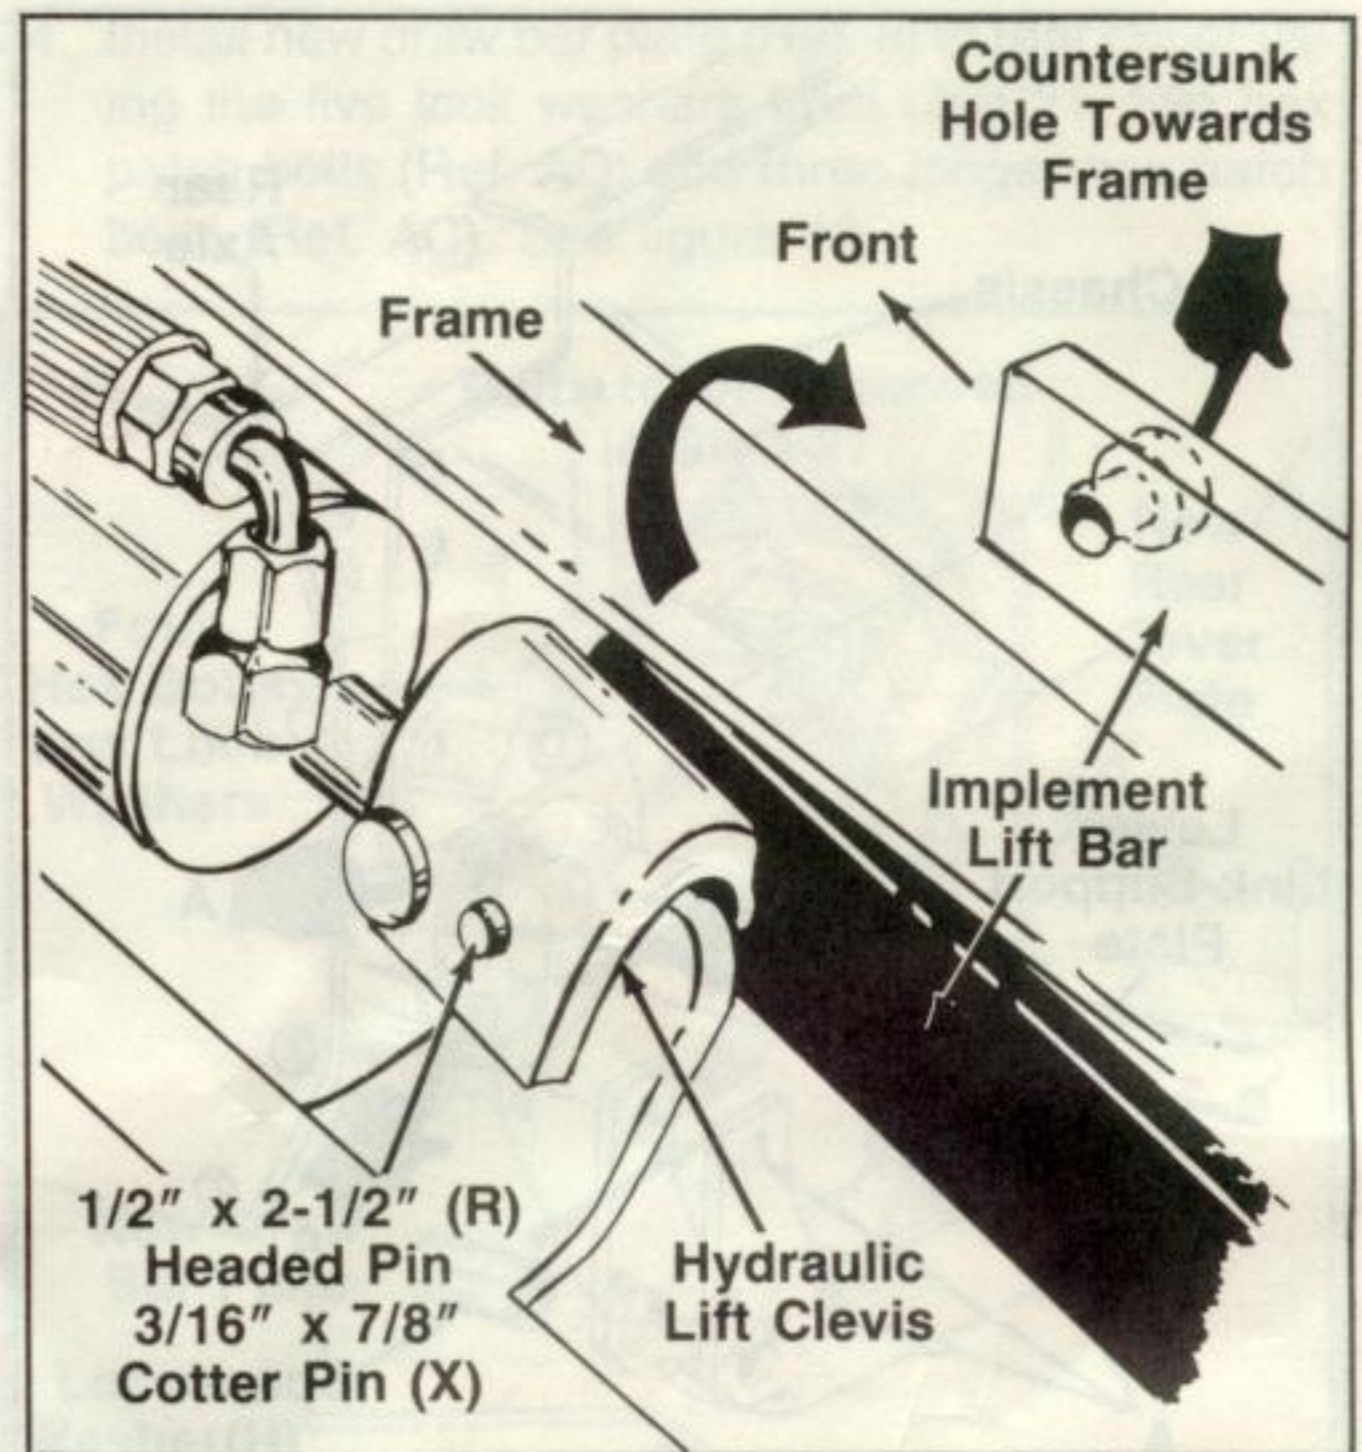

FIGURE 21.
30. Remove headed pin 1/2" x 1.50" through access hole in frame and attach the implement lift bar to hydraulic lift clevis assembly. See figure 21.